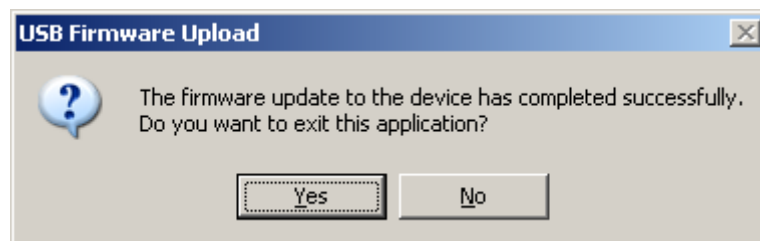

Figure 20
13. The software will prompt the user to exit at this point (Figure 20).